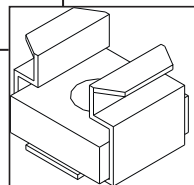

Figure 23: Square Bolt.
There are two (2) leveling legs and they can be found inside the manual bag. Each leveling leg consists of a long bolt, a hex nut, a washer, and a square bolt with clip (see Figure 23). For installation of the leveling legs the unit should be on its back and a  $\frac{1}{2}$ " wrench is required for adjustments.